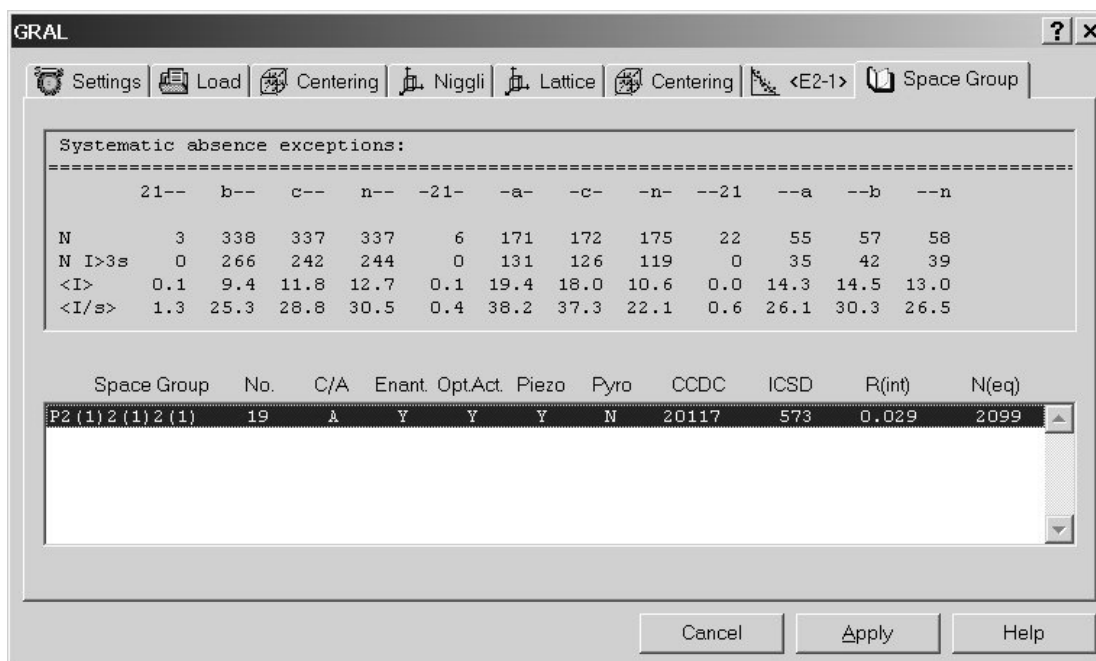

Figure 6.5.39 Screenshot of the GRAL plug-in Space Group Window
10. GRAL now examines the systematic absence exceptions (where applicable) and provides a statistical table for user confirmation of its preferred choice of space group. Figure 6.5.39 shows the space group P2(1)2(1)2(1) selected. The user can accept this choice by clicking on “Apply” or select from one of the alternative choices when present.